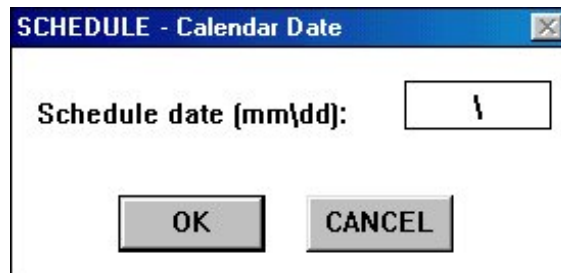

Figure 9-13: Schedule Calendar Date Dialog Box
2. On the Action menu, click Add Calendar Date. The Schedule Calendar Date dialog box appears (Figure 9-13).